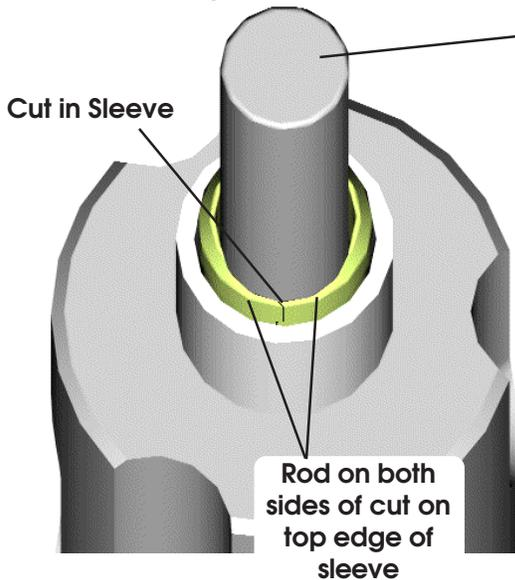

Figure 2-7C
- The sleeve has a cut along it and there is a slight taper in the insertion tool. Place the 1-1/8" (28.5 mm) rod on the top edge of the sleeve on both sides of the cut in the sleeve. As the sleeve is forced into the insertion tool it will coil. Keep the rod on both sides of the cut in the sleeve as it is forced into the insertion tool. This is shown in figure 2-7C and 2-7D.